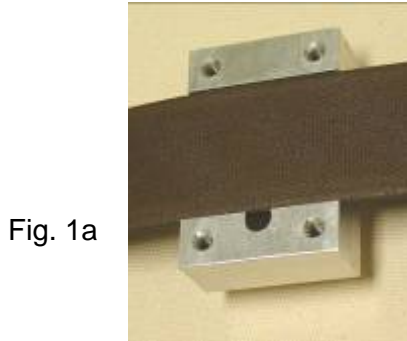

Fig. 1a
- C. Mount the Body / Tooth Assembly to the center of the Outer Strap by placing the Outer Strap in the strap slot of the Body / Tooth Assembly (Fig. 1a).